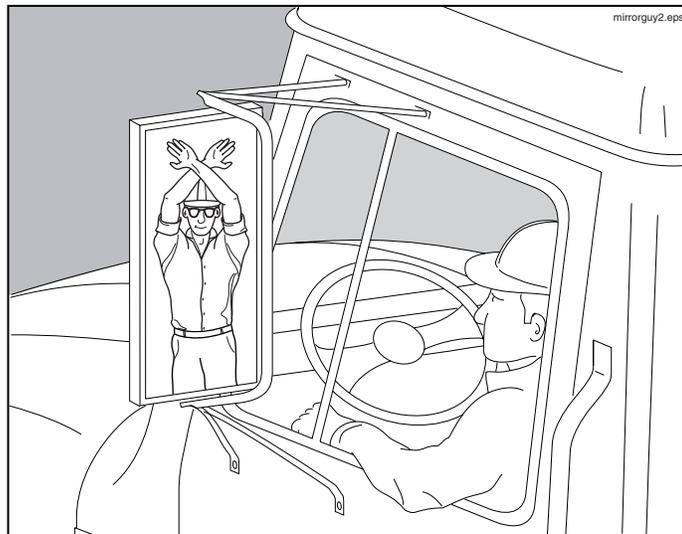

Figure 8
3.2 **⚠ WARNING! Crushing hazard.** Do not get closer than 10 feet to the pump unless you have a clear view of the spotter who is directing you. If you lose sight of the spotter, **STOP IMMEDIATELY.** Do NOT continue to back up until line-of-sight has been reestablished. See Figure 8.